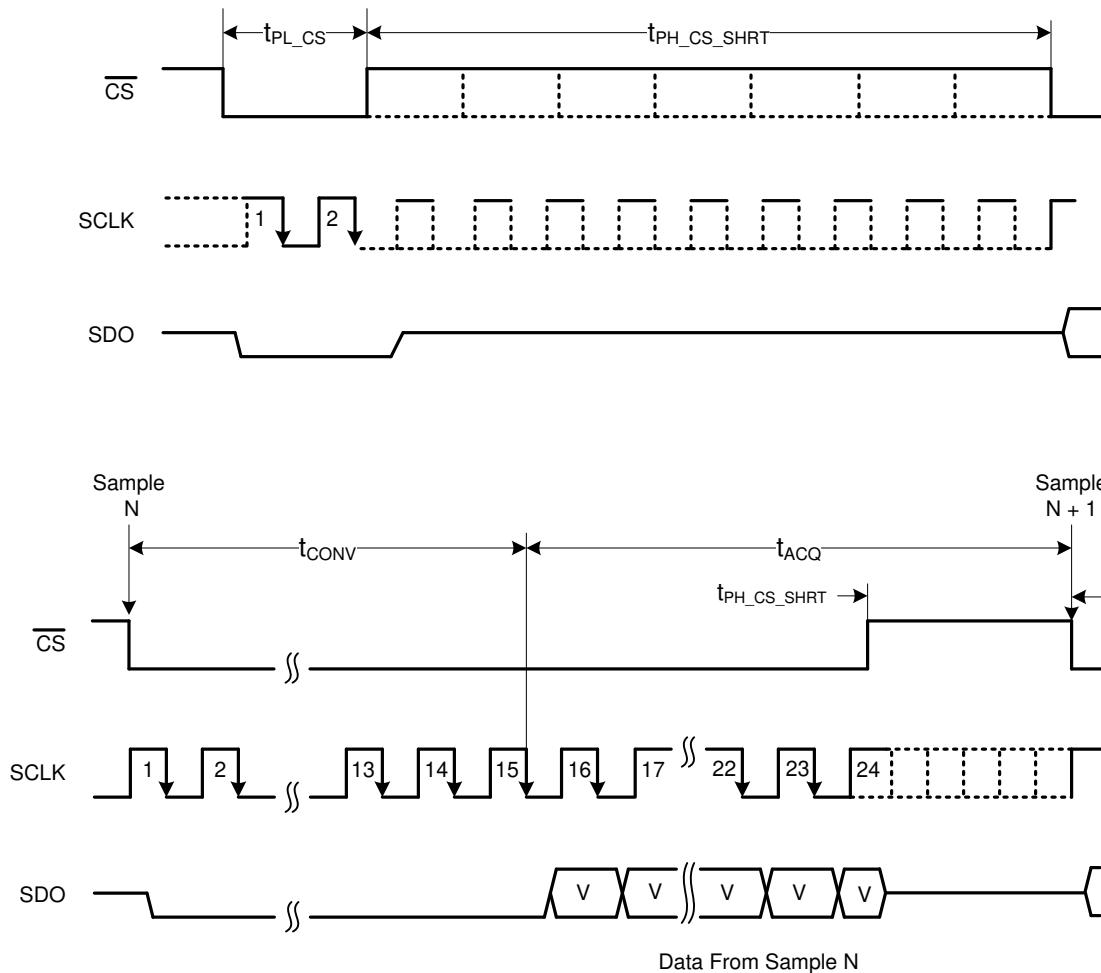

图 7-12. Frame Abort, Reconversion, or Short-Cycling Feature
As shown in 图 7-12, the minimum number of SCLK falling edges (N) that must be provided between the beginning and end of the frame depends on the serial interface mode. The SCLK falling edges (N) program the device and retrieve the conversion result. If \overline{CS} is brought high before the expected number of SCLK falling edges are provided, the current frame is aborted and the device starts sampling the new analog input signal.